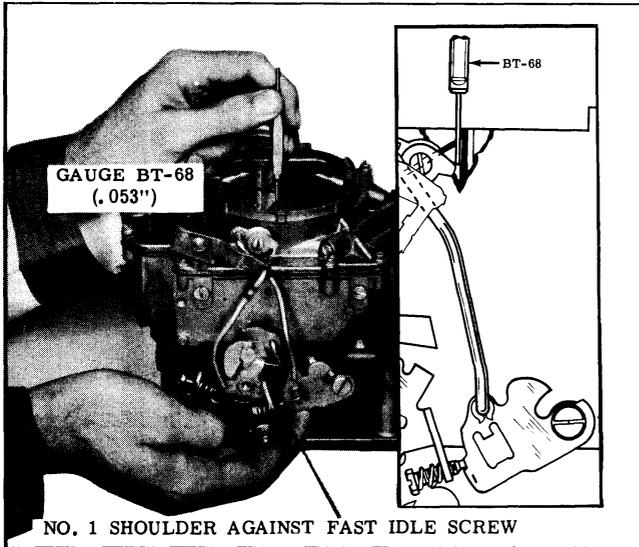

Fig. 8-108 Choke Rod Adjustment
2. Hold the fast idle cam in the closed position so the shoulder of the highest step is against the fast idle screw. (See Fig. 8-108)
the top edge of choke valve and the dividing wall (using small end of gauge BT-68). (See Fig. 8-108)